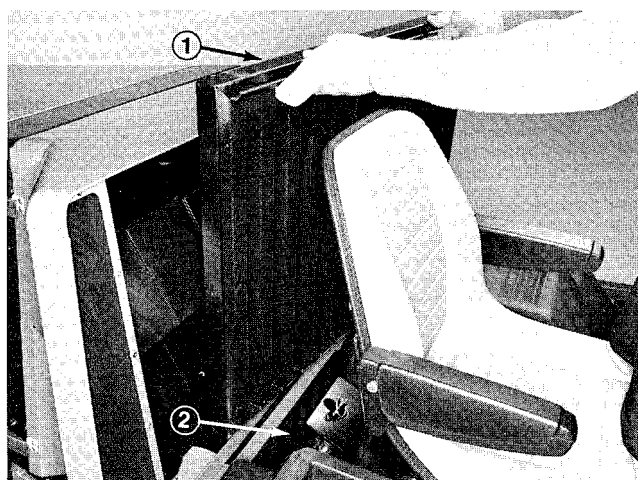

Figure 39
- B. Remove upper and lower grille assemblies (Fig. 39).